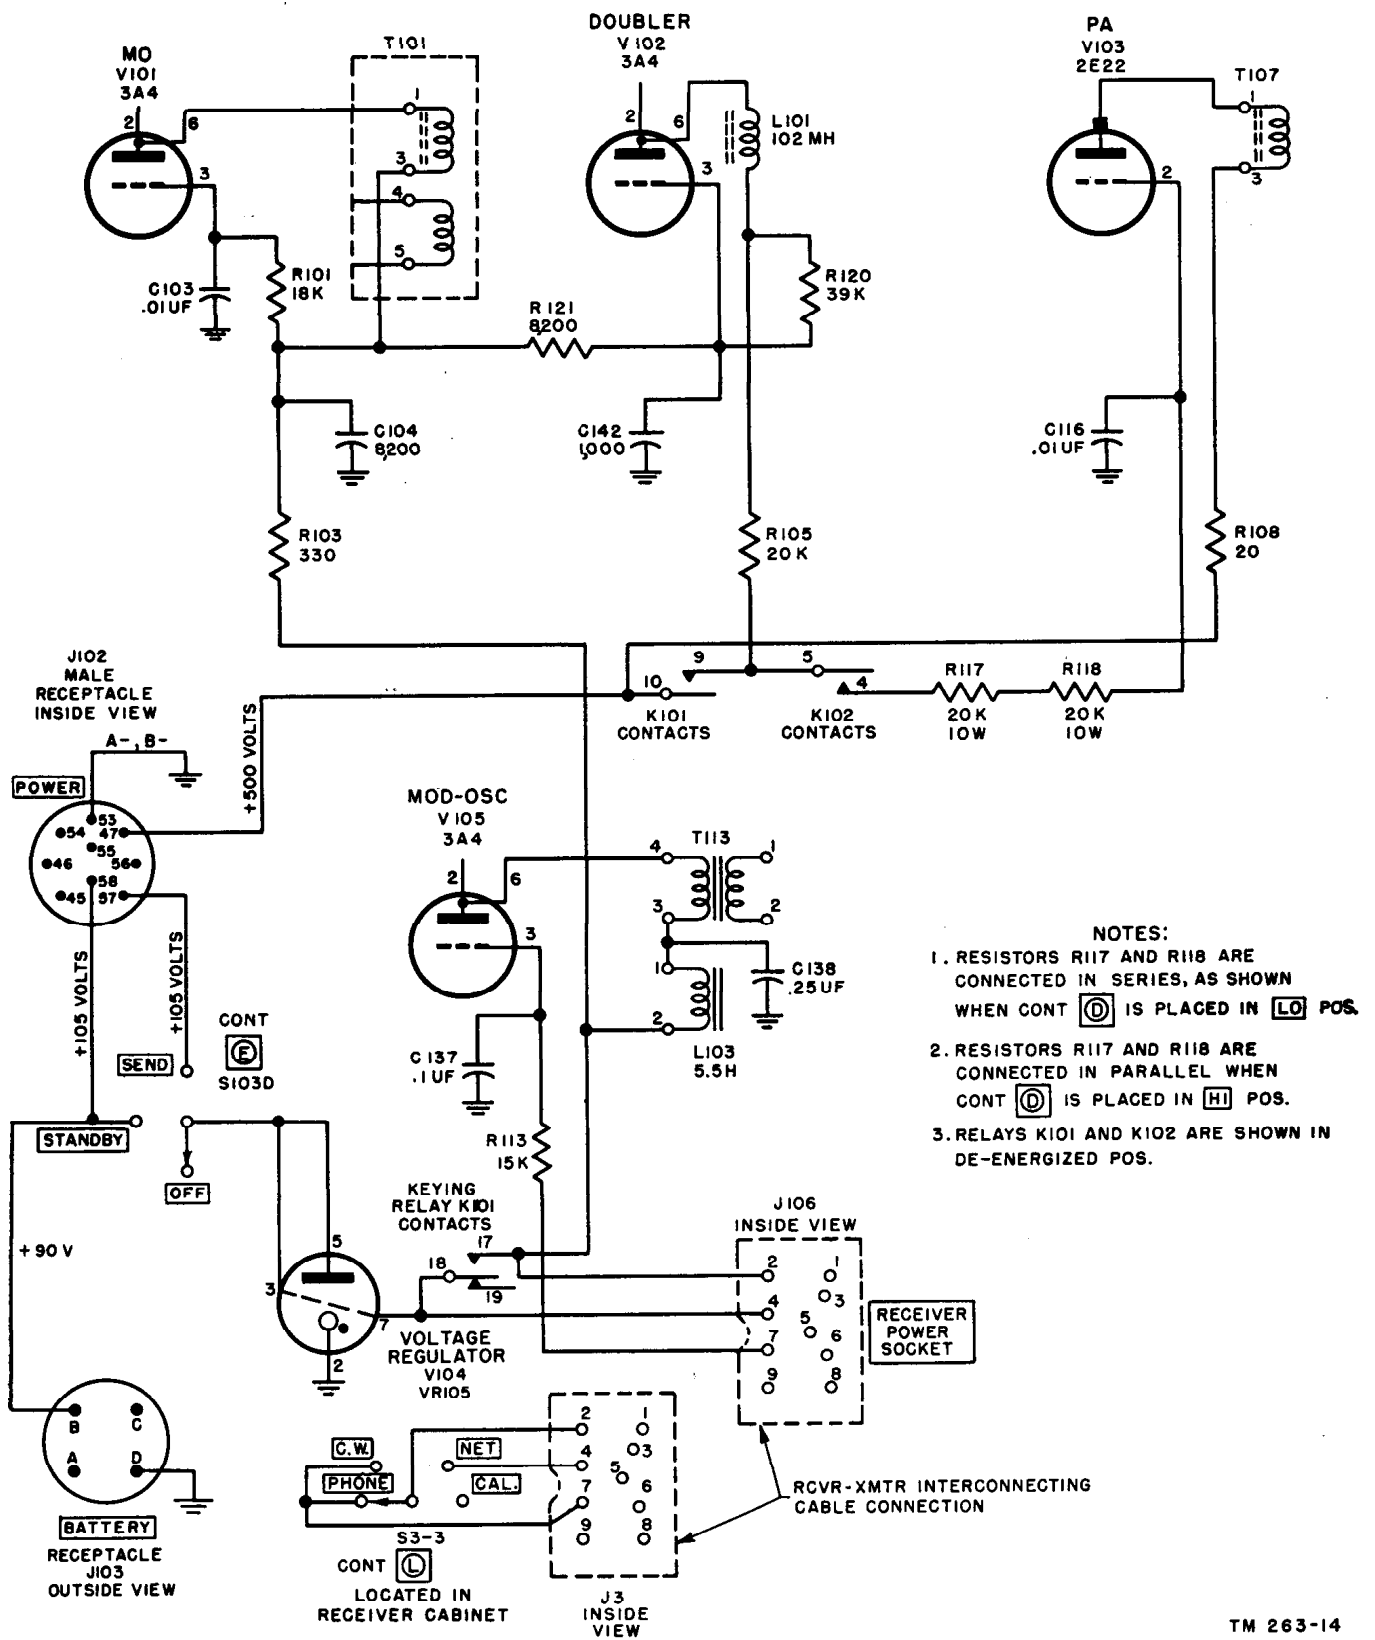

Figure 91. Transmitter plate and screen circuits.
voltage of the modulator tube, and, at the same time, it interrupts the plate circuit of the master oscillator and the screen circuit of the power amplifier (fig. 91). The relay thus keys the sidetone oscillator in synchronism with the transmitted signals.
117. Transmitter Plate and Screen Circuits (fig. 91)
118. Net Operation (fig. 91)
f. Plate and screen voltages are applied to the master oscillator and doubler stages (fig. 91) are controlled by K101. Contacts 17 and 18 close, connecting the plates and screens to the power line through pin 7 of voltage regulator tube V104 (fig. 67).
d. In the SEND position of control ⑥ (fig. 94), the +105 volts is fed from pin 57 on J102, through switch section S103D, to VR104, and then to the plates and screens of all of the tubes in the receiver-transmitter except pa tube V103 (fig. 91). When control ⑥ is in the STANDBY position, pin 33 on 240 is not connected to anything, therefore low voltage (+105 volts) cannot be fed to the receiver-transmitter. To use the generator power supply when control ⑥ is in the STANDBY position, Battery BA-48 must be used also.